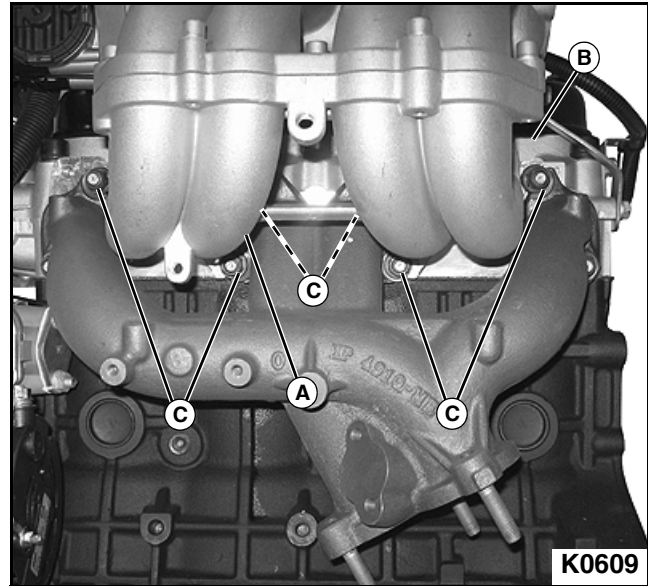

Figure 3-60
1. Install intake manifold (A) to cylinder head (B) with six flange nuts (C). **See Figure 3-60.**